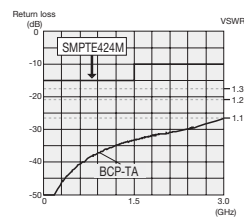

Fig.2 Return loss for BCP-TA
- 1.1 or less VSWR up to 2GHz. <Fig. 2>